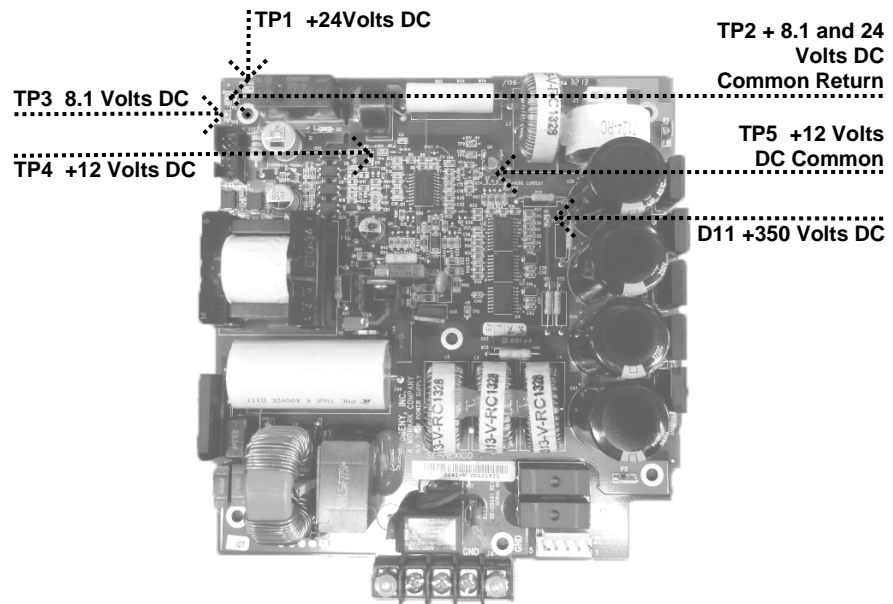

Figure 55
1. On the Power Supply Board, observe that the power supply indicator D11 +350volts DC is illuminated, as shown in *Figure 55*. Illumination represents proper stored energy for an exposure. If this indicator is not illuminated, it will be necessary to replace this board.
3. On the Power Supply Board, use TP2 as a common test point to check TP1 +24 volts DC and TP3 8.1 volts DC. Then use TP5 as the common return to check TP4 for the presence of +12 volts DC, as shown in *Figure 55*. Should any of these voltages not be present, replace the Power Supply Board. If each voltage is present, check other voltages on the Logic Board.